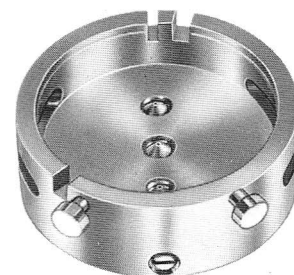

Fig. 22
- No.      is required when fitting the hands. It has three adjustable support screws on which the bearings rest when hands are pushed home. There are also two push-pieces for checking the flyback action. See fig. 22.